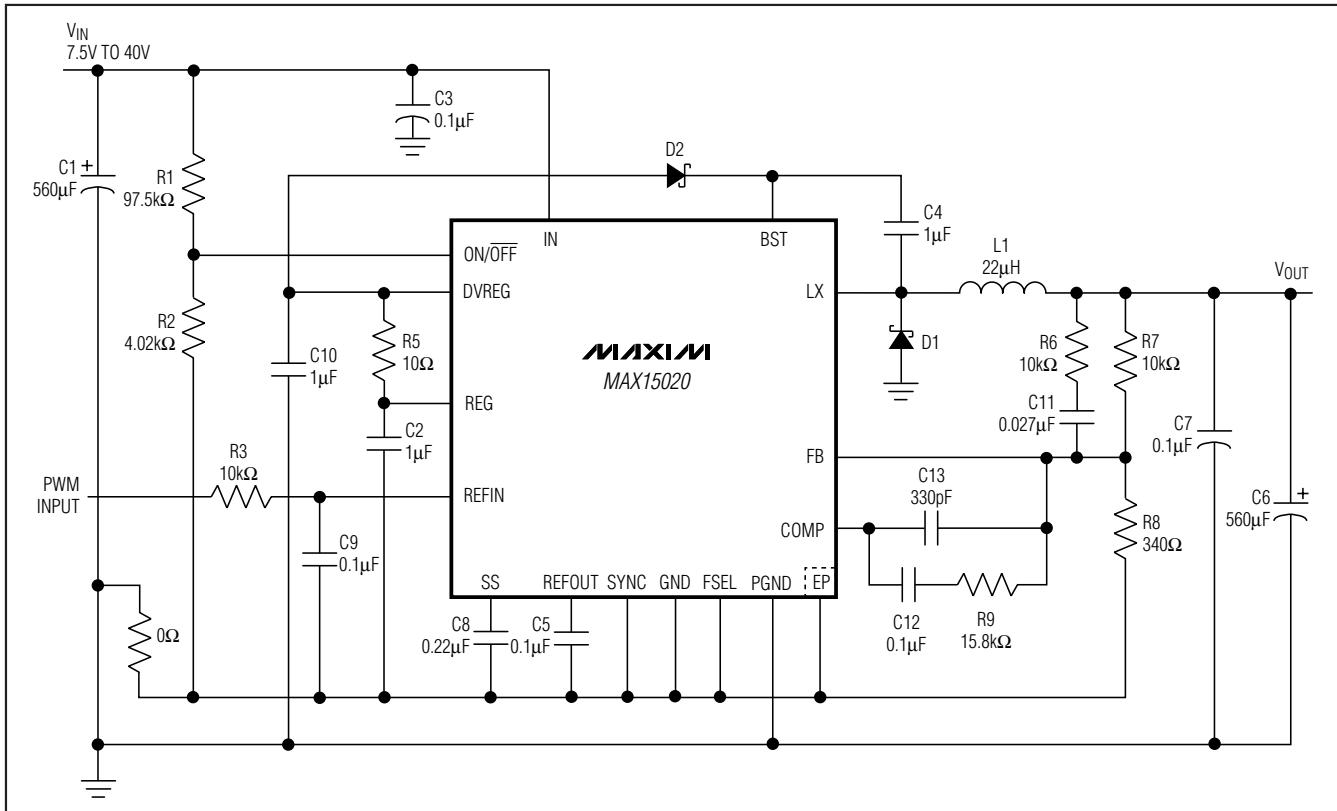

Figure 2. Typical Application Circuit
($V_{IN} = 36V$, Circuit of Figure 2, $T_A = +25^\circ C$, unless otherwise noted.)
| 9 | DVREG | Power Supply for Internal Digital Circuitry. Connect a 10Ω resistor from REG to DVREG. Connect DVREG to the anode of the boost diode, D2 in Figure 2. Bypass DVREG to GND with at least a 1µF ceramic capacitor. |
The MAX15020 features a reference input for the internal error amplifier. The IC regulates FB to the SS voltage which is driven by the DC voltage applied to REFIN. Connect REFIN to REfout to use the internal 0.98V reference. Connect REFIN to a variable DC voltage source to dynamically control the output voltage. Alternatively, REFIN can also be driven by a duty-cycle control PWM source through a lowpass RC filter (Figure 2).
When the voltage at ON/OFF rises above 1.225V, the MAX15020 turns on. Connect a resistive divider from IN to ON/OFF to GND to set the turn-on voltage (see Figure 2). First select the ON/OFF to the GND resistor (R2), then calculate the resistor from IN to ON/OFF (R1) using the following equation:
Connect a resistor-divider from OUT to FB to GND to set the output voltage (see Figure 2). First calculate the resistor (R7) from OUT to FB using the guidelines in the Compensation Design section. Once R7 is known, calculate R8 using the following equation:
The basic regulator loop consists of a power modulator, an output feedback divider, and a voltage error amplifier. The power modulator has a DC gain set by V_{IN} / V_{RAMP} , with a double pole and a single zero set by the output inductance (L), the output capacitance (C_{OUT}) (C_6 in the Figure 2) and its ESR. The power modulator incorporates a voltage feed-forward feature, which automatically adjusts for variations in the input voltage resulting in a DC gain of 9. The following equations define the power modulator: